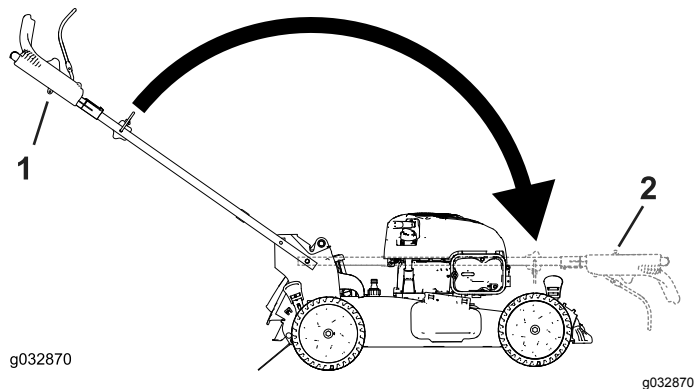

Figure 21
2. Fold the handle by rotating it forward (Figure 21).